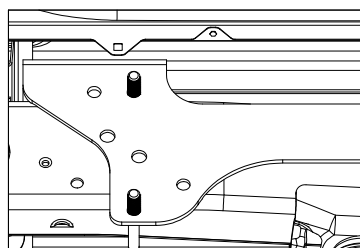
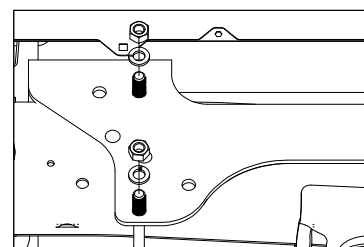

Figure D2: Long Bed U-bolt location.
Figure D4: View looking into driver side wheel well.
- 2. Install the U-bolt.** The frame geometry differs between the long bed and short bed versions of the truck. Use Figures D2 & D3 to determine which set of holes you will need to install the U-bolt through depending on the configuration of the truck. Locate a 1/2" x 5 1/2" x 4 1/4" U-bolt, two 1/2" split lockwashers, and two 1/2" finish nuts. Pass the U-bolt up past the frame and under any wiring or brake lines. Turn the U-bolt into the correct mounting holes in the side plate and secure as shown in Figure D4.